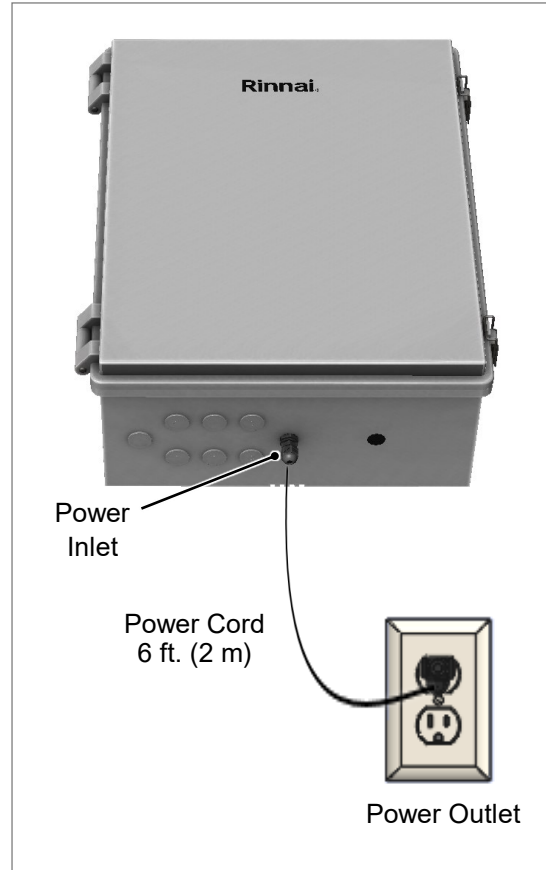

Fig 35. Connecting Power Cord from Outdoor BMS Gateway to Power Outlet
3. Connect the other end of the power cord (if used) to a standard three-prong 120V AC, 60 Hz properly grounded, outdoor-rated power outlet (Fig 35).